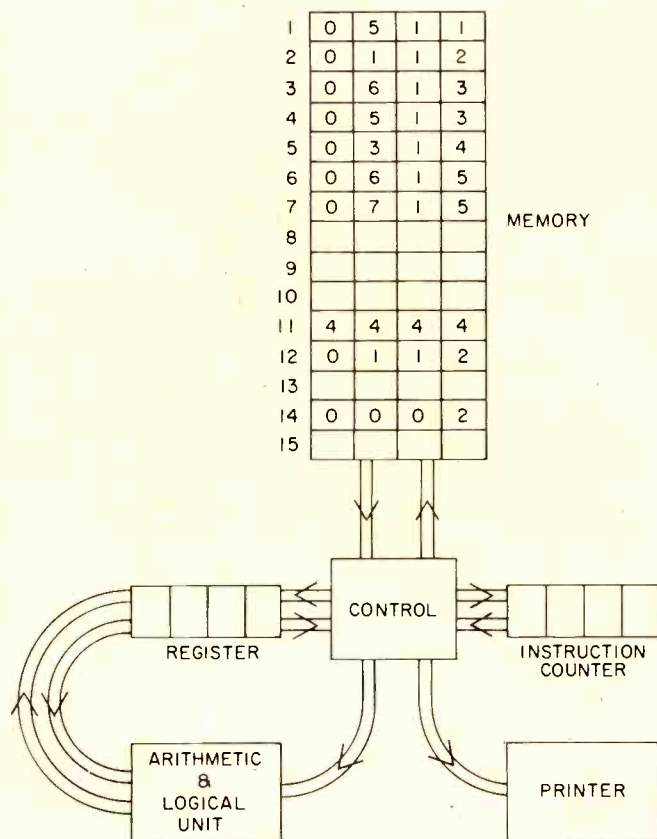

Fig. 3 — Example of a computer.
The program loaded in the memory in Fig. 3 brings the content of location 11 (4444) into the register (working area, scratch pad), adds the content of location 12 (112), stores the results into location 13 (which must be empty otherwise what is there is over-written), brings such result back into the register, divides by 2 (content of memory location 14) and then, after storing the final result in location 15, prints it out. Note that at the top (program storage area) 112 means add to content of location 12, while at location 12 it means the number 112. The control here does basically two things; it directs the data in the right spot like a policeman directing traffic, and it augments the instruction counter, which in effect provides the continuity of activity. Thus, in a subcycle the next "instruction" is fetched, as soon as the old one is executed, and put into the control, which then decides what to do (which doors to open); the ALU actually performs the required computations.